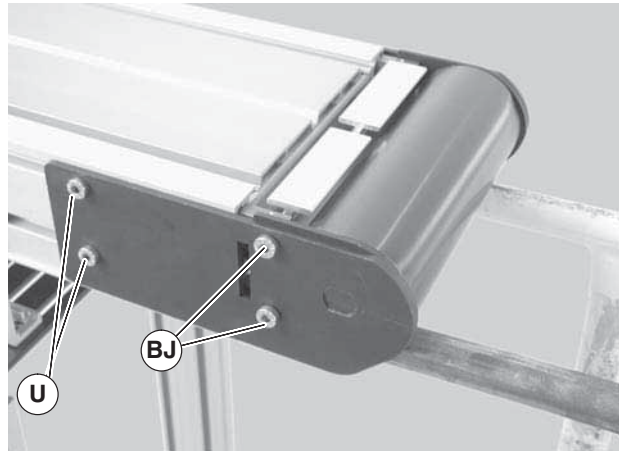

Figure 53
3. Pull back the outer headplate (Figure 53, item V) and remove the inner spacer (BK).